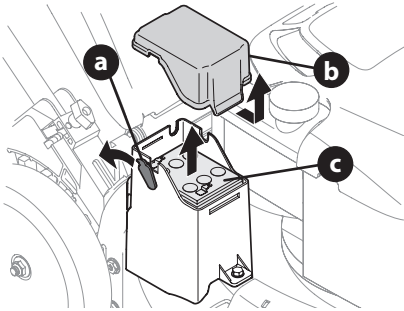

Figure 42
1. Removing the battery (Figure 42):